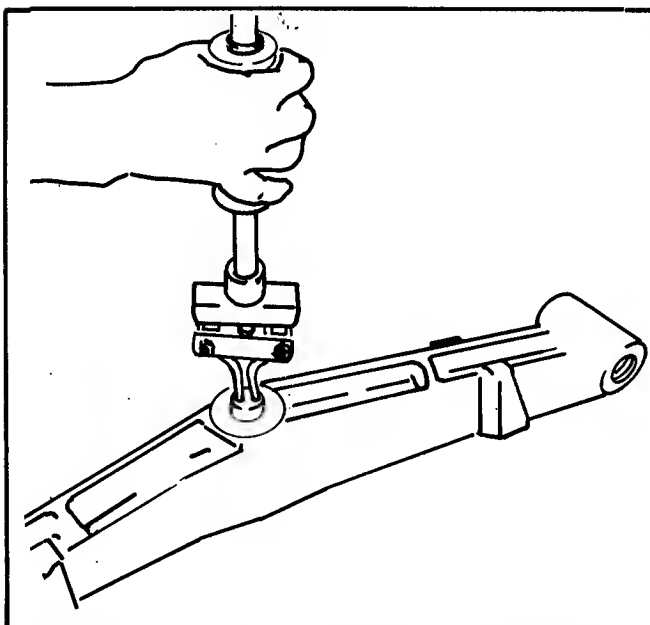

FIG. 2.11 — REMOVING AXLE PIVOT BUSHING
5. Remove bushings from axle. Fig. 2.11.